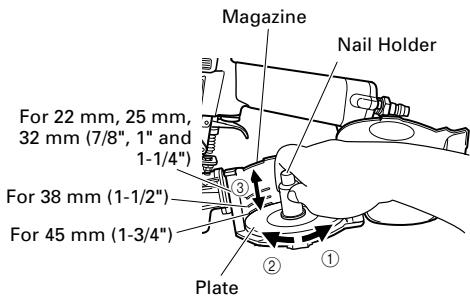

Fig. 2
(2) Adjust the position of the nail holder according to the nail length. (Fig. 2)